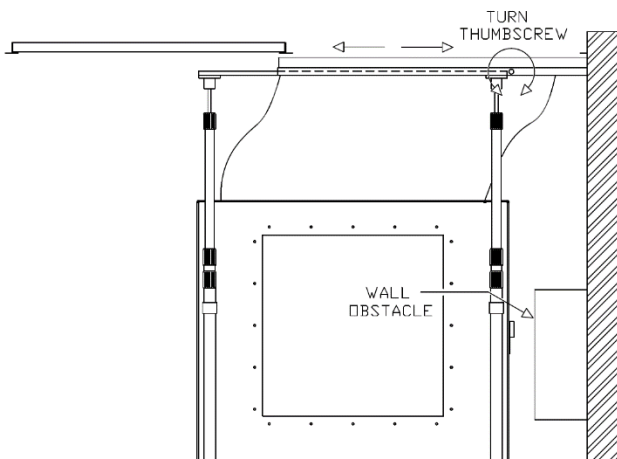

Figure 2
1. Loosen the thumb screws located on the inside of each end frame. (Figure 2)